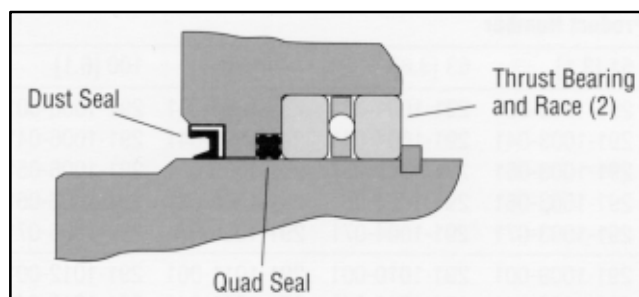

Figure 137
2. Lubricate and install the dust seal. See Figure 137 for correct seal orientation.